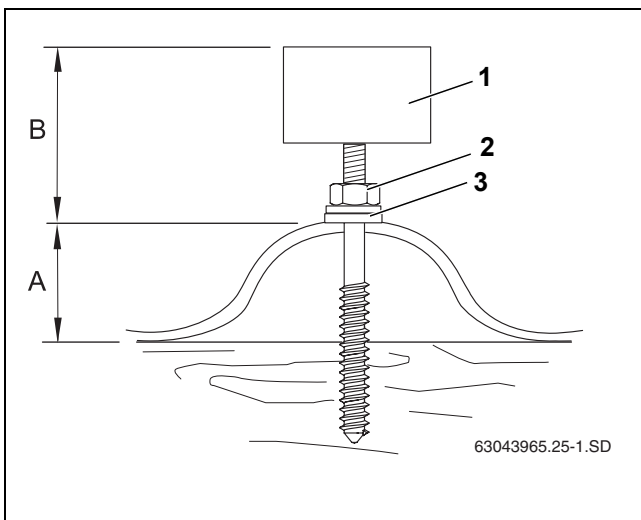

Fig. 23 Fitting the double ended screws - sequence
When turning the double ended screws, ensure that distance B (Tab. 7 and Fig. 23) is the same for all double ended screws.
- ▶ Tighten the nut (Fig. 23, [2]) until the sealing disc (Fig. 23, [3]) fully touches the roof.